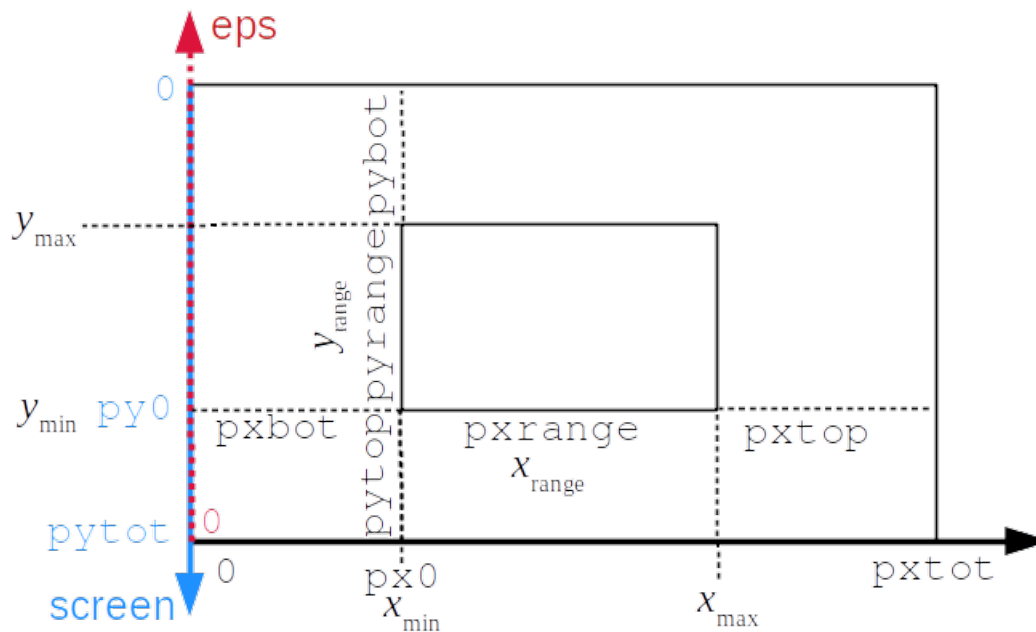

Figure 2: `../com/vgraph` coordinates
**SetRange\***, **SetMargin\*** etc set plot ranges and scaling as displayed in Fig.2. The vertical screen coordinate counts downwards whereas the physical coordinates as well as the Postscript coordinates count upwards.